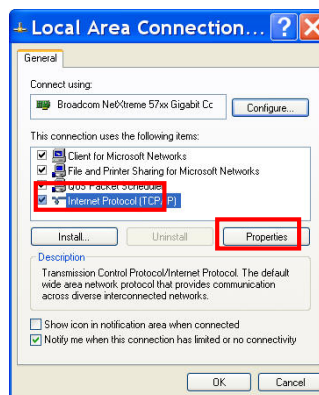

Figure 102: Local Area Connection Window
4. Click on *Internet Protocol (TCP/IP)*. See Figure 102.